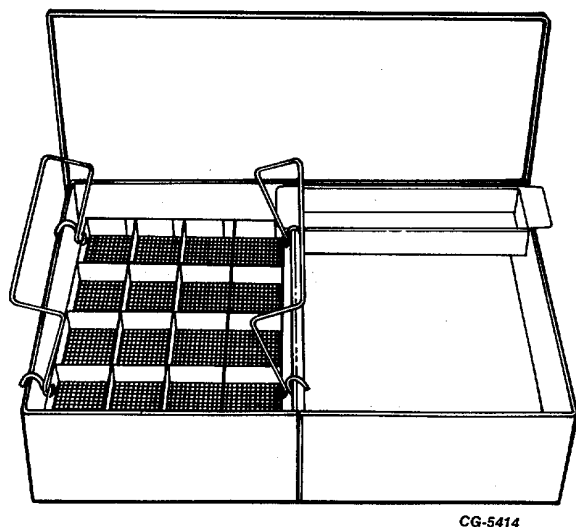

Fig. 121. Hydraulic Lifter Tray SE-1892
- B. To avoid mixing plungers and cylinders, take one lifter apart at a time and complete all-servicing before working on another. However, if tray SE-1892, Figure 121, is available for keeping plungers and cylinders together, all lifters may then be disassembled at the same time.